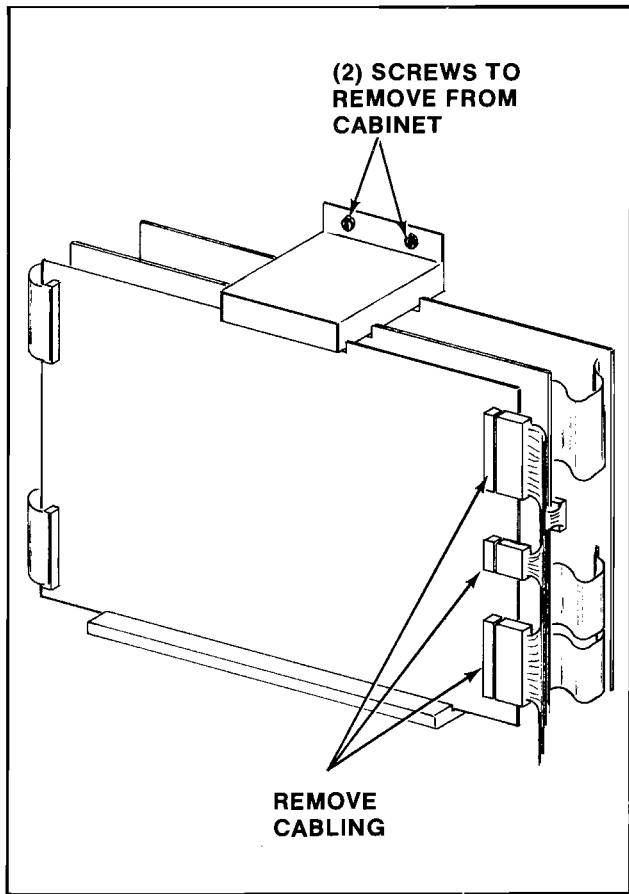

Figure 25 Replacing card rack P.C.B.'s — All versions
- To remove the P.C. boards from the card rack. See Figure 25.